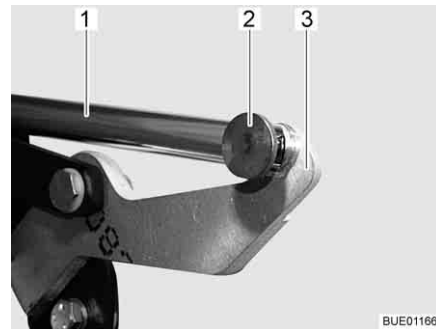

Fig. 120 Drive
- Detach the pin and cotter pin (Fig. 120,2) between the push rod (Fig. 120,1) and lever (Fig. 120,3).